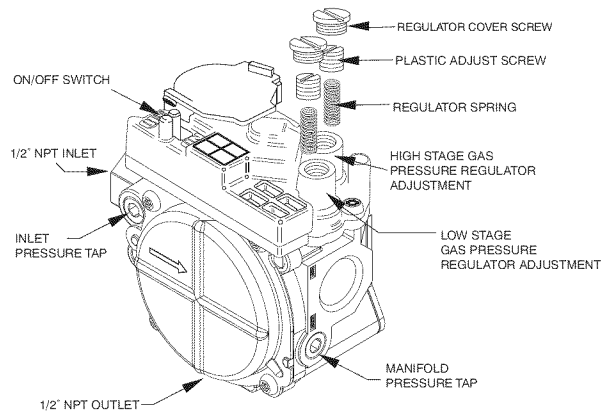

Fig. 59 - Redundant Automatic Gas Valve
- b. Remove regulator seal caps that conceal adjustment screws for low- and high-heat gas valve regulators. (See Fig. 59.)